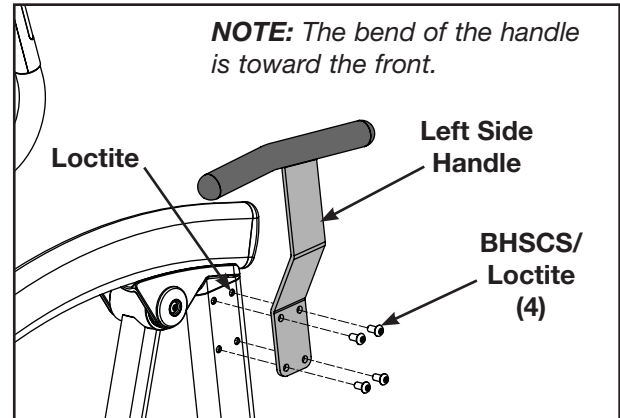

Figure 2
- A. Using a 7/32" Allen wrench, remove the outside four Button Head Socket Cap Screw (BHSCS) securing the left rear leg to the frame. See Figure 2.
- B. Place a drop of loctite (D) on the four new BHSCS (C). Place another drop of loctite in the threaded hole where each BHSCS will be tightened into.
- C. Install the left side handle using the four BHSCS/loctite. Tighten the four BHSCS securely. **NOTE:** Install the handle bracket so that the bend of the handle is toward the front. Figure 2.